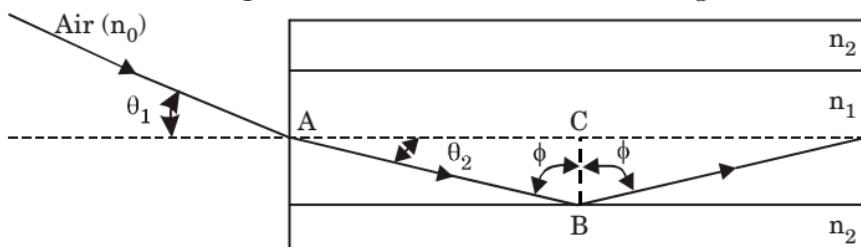

Fig. 2. The ray path for a meridional ray launched into an optical fiber in air at an input angle less than the acceptance angle for the fiber.
1. In the Fig. 2, it is observed that a light ray incident on the fiber core at an angle θ_1 is less than the acceptance angle θ_a .